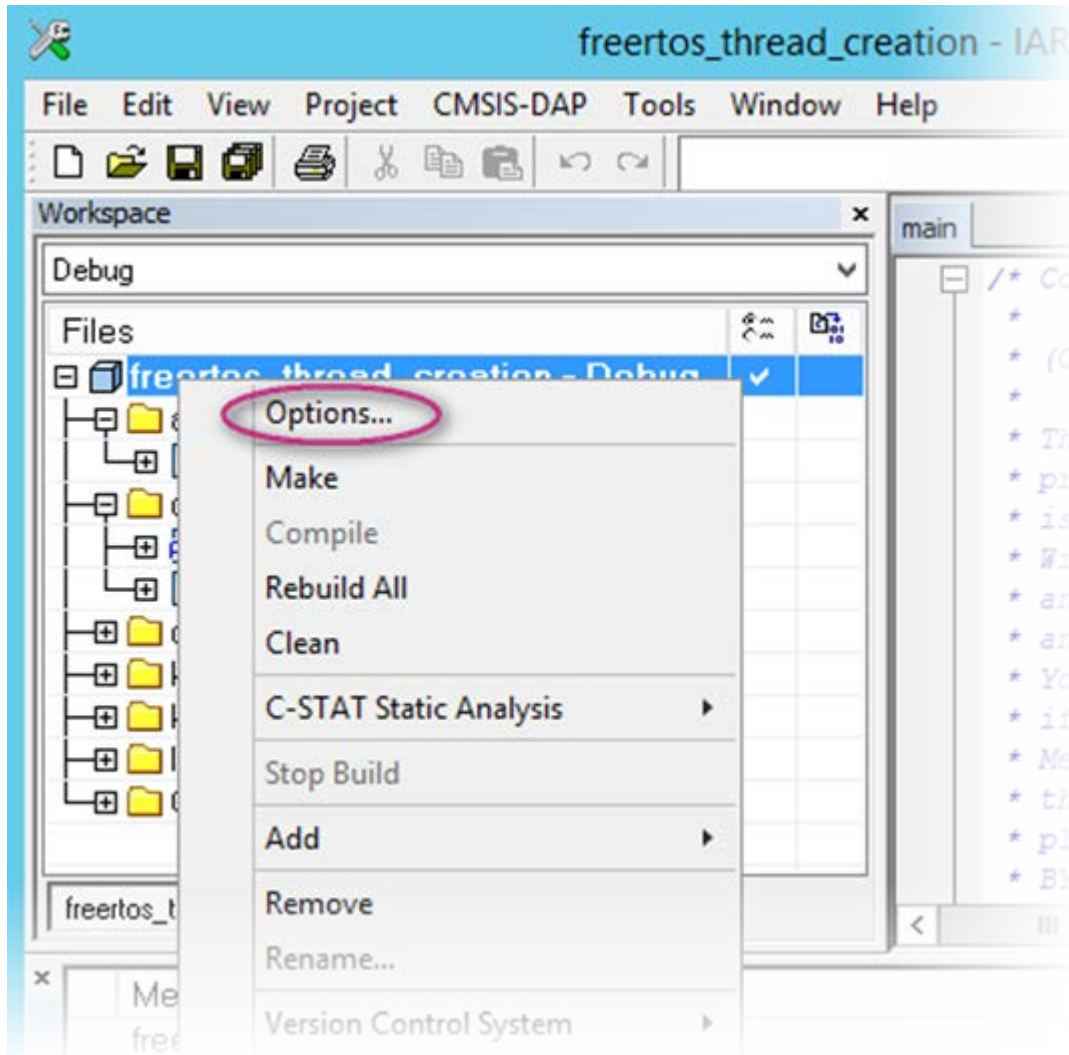

Figure 63. Set download configuration on IAR IDE
- 2) Click **Options** on IAR Embedded Workbench (see Figure 63).